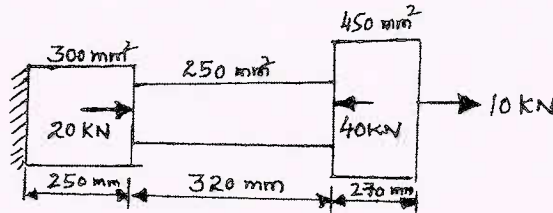

Fig.Q1(c)
- c. A stepped bar with three different portions has a fixed support at one of its ends. The stepped bar is subjected to forces as shown in Fig.Q1(c). Determine the stresses and deformations induced in each portion. Also find the net deformation induced in the stepped bar. Take $E = 200 \text{ GPa}$. (08 Marks)